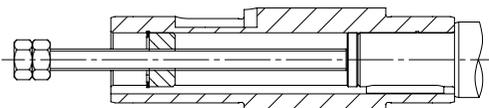

Figure 7: Removal of shaft-mounted gearbox
- For hollow shaft bores > 35 mm, dismantling can be performed as shown in Figure 7.